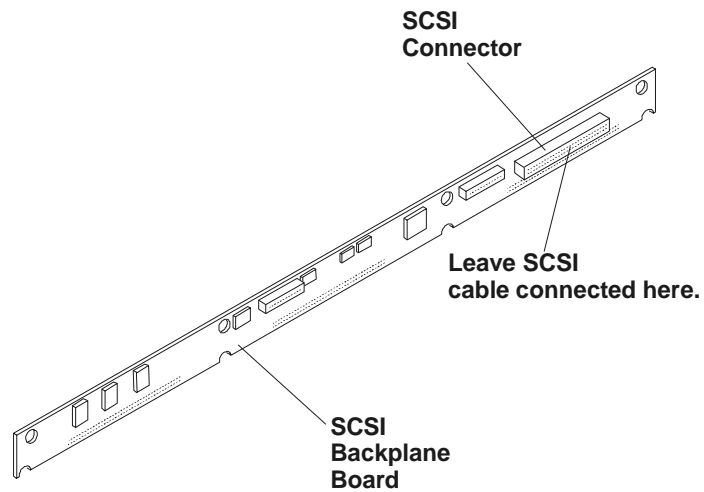

Figure 3-6. SCSI Backplane Board
2. Disconnect the SCSI cable end connected to the SCSI A cable connection on the system board. See Figures 3-6 and 3-7.